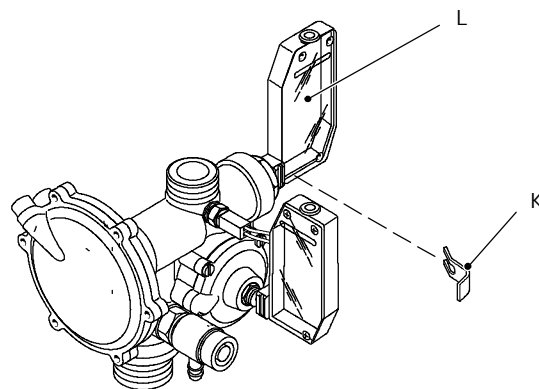

fig. 29
- 2 Remove the fork *K* that holds the d.h.w. pressure switch *L* placed on the right side of the valve and remove the switch (fig. 29).